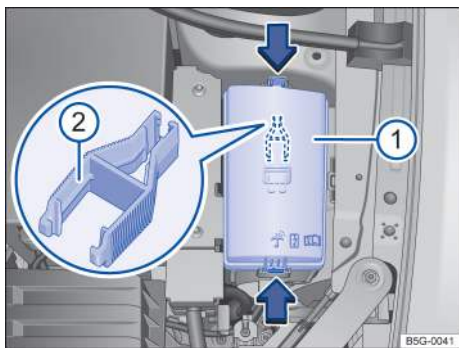

Fig. 157 In the engine compartment: Fuse box cover **①** with tweezers **②**.
- *To remove*: Press the release tabs in the direction of the arrows → **fig. 157** to unlock the fuse box cover **①**.
In some vehicles, there are plastic tweezers for removing fuses on the inside of the fuse box cover → **fig. 157 ②**.